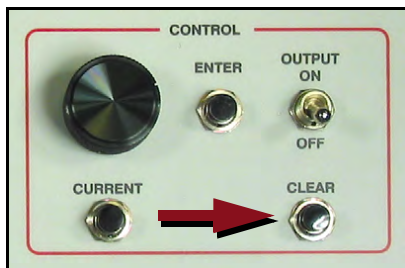

Fig. 4-9: Location of fault CLEAR button.
3. Turn off the fault lamps by pressing the CLEAR button in the CONTROL rectangle (Figure 4-9) or the RESET button below the VOLTAGE RANGE toggle switch (Figure 4-10).